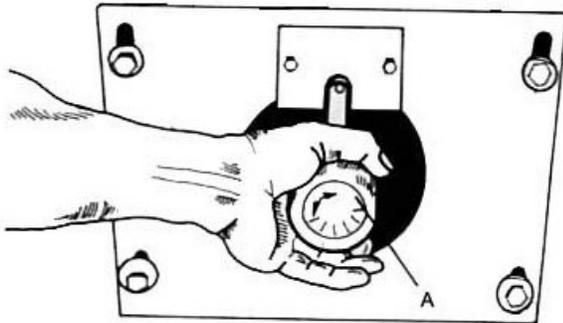

Fig. 14
This planer is equipped with a separate 1HP feed motor and variable feed speed control system. The feed rates are from 19 FPM to 39 FPM which meets the different requirement of soft stock and hard stock. It is easy to adjust by turning the dial knob (A) as shown in Fig.14. The variable speed adjustment dial (A) turns clockwise for low speed feeding and counterclockwise for higher speed selection.